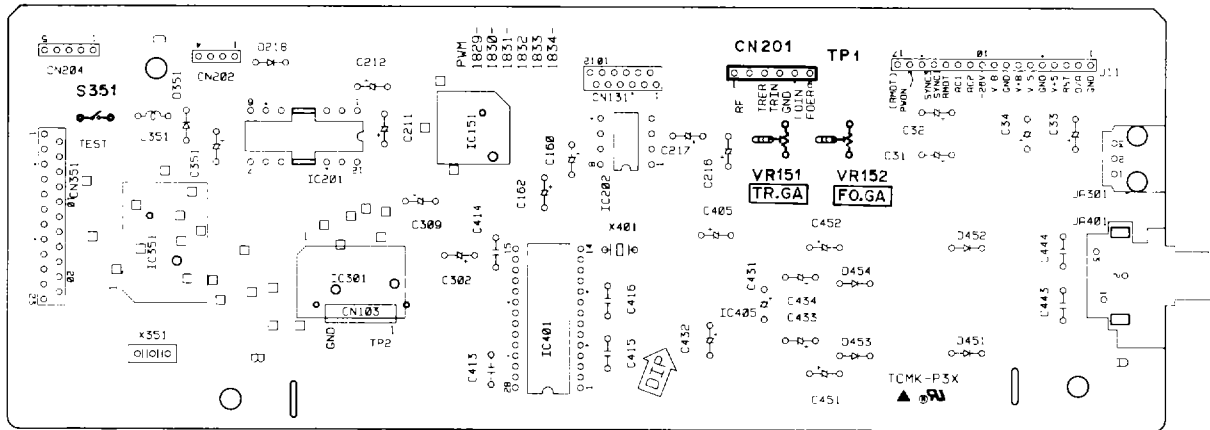

Figure 1. Adjustment Locations
2. Push the test mode switch (S351). (See Figure 1.)